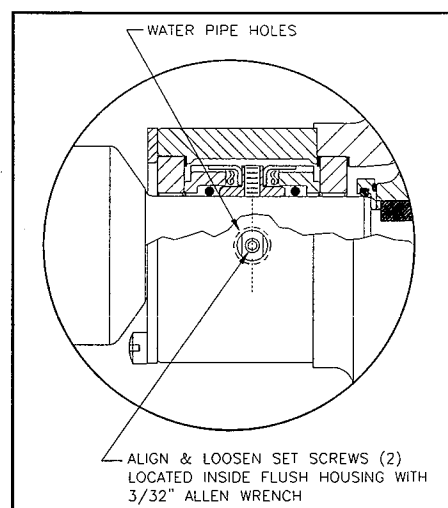

Figure 10: Loosening of the two set screws on the seal driver
To replace the mechanical seal, the pump housing (10) needs to be removed. First remove the two water pipes (27) on either side of the seal flush housing (26) using pliers or channel locks. Next loosen the two set screws (24) on the seal driver (25) which are located inside the seal flush housing. This is done by rotating the shaft (30) so that the set screws are in line with the hole in the seal flush housing where the water pipes were removed. Then place the 3/32" Allen wrench through the hole and loosen the set screws (**Figure 10**).